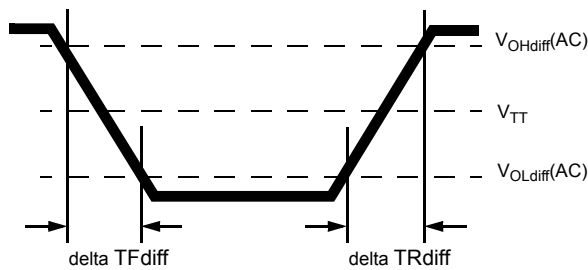

Figure 18. Differential Output Slew Rate Definition
With the reference load for timing measurements, output slew rate for falling and rising edges is defined and measured between VOLdiff(AC) and VOHdiff(AC) for differential signals as shown in Table 27 and Figure 18.